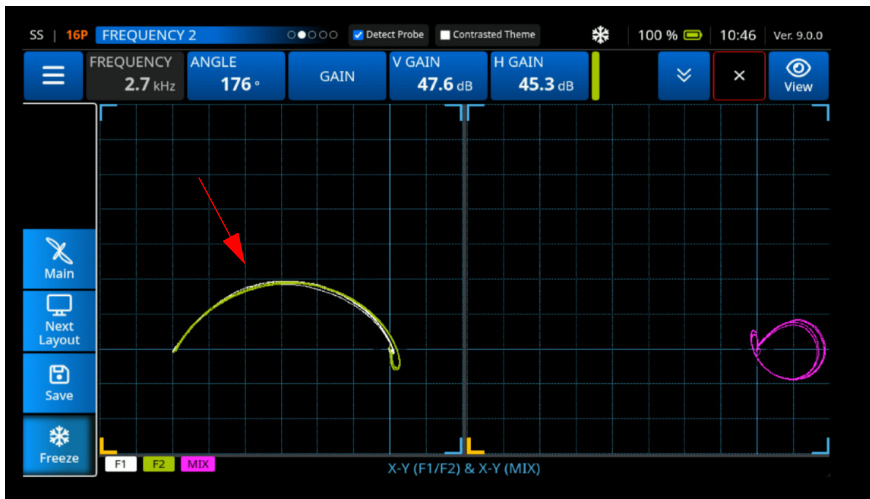

Figure 3-94 Adjust the Gain and Angle Settings
5. Using the **Gain** and the **Angle** settings and the knob, adjust the F1 signal to reach **2 Vertical** divisions and **6 Horizontal** divisions (See Figure 3-94 on page 112).
7. Using the **Gain** and the **Angle** settings and the knob, adjust the F2 signal to reach **2 Vertical** divisions and **6 Horizontal** divisions (See Figure 3-94 on page 112).